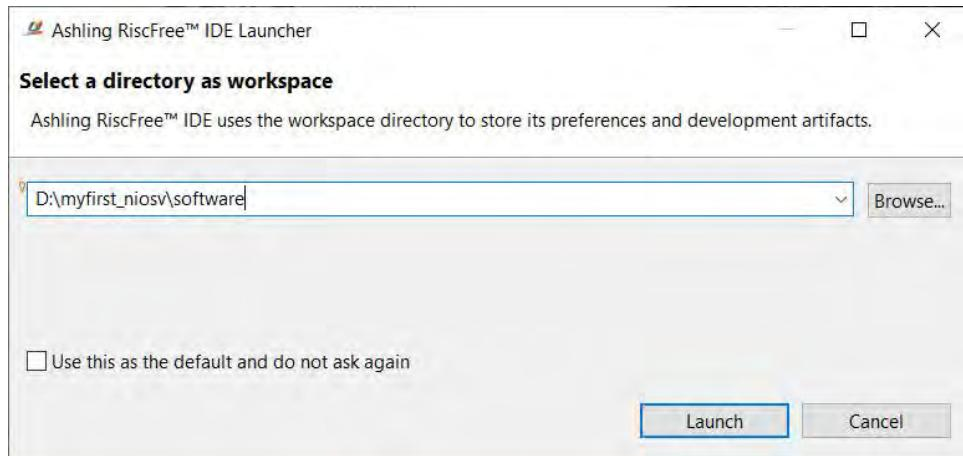

Figure 3-11 Select Workspace
3. Then click Launch Set the workspace as shown in Figure 3-11, then click Launch.